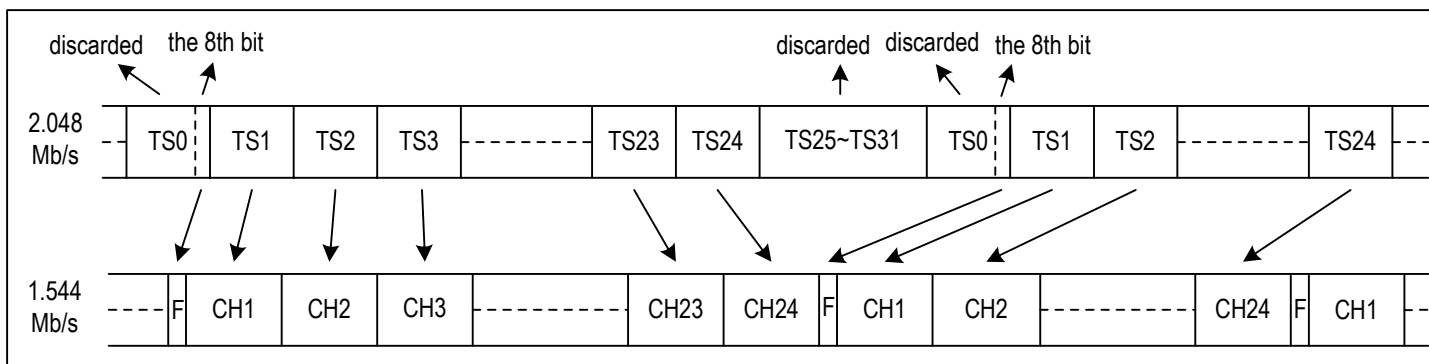

Figure 27. E1 To T1/J1 Format Mapping - Continuous Channels Mode
3. T1/J1 Mode E1 Rate per Continuous CHs (refer to Figure 27): TS1 to TS24 of Frame N on the system side are converted into Channel 1 to Channel 24 of Frame N to the device. The 8th bit of Frame N on the system side is converted into the F-bit of Frame N to the device. The first 7 bits and TS25 to TS31 on the system side are all discarded.